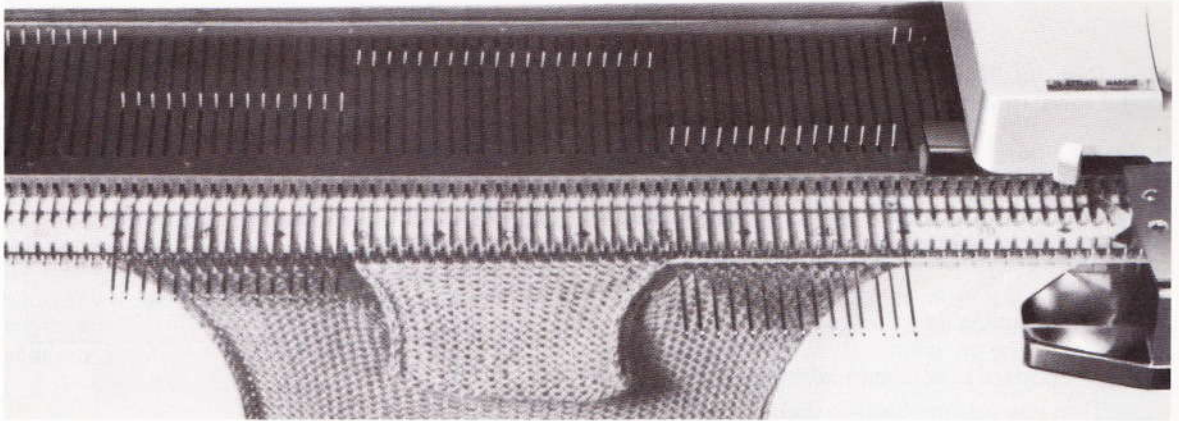

Fig. 178
5. Using needle selection bar push the 15 needles on the left to D position (fig. 178).